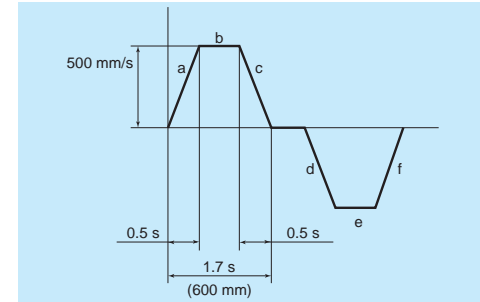

Fig. 4.9
3-1-1. Fatigue life; Multiply the result of the Eq. ② by the dynamic equivalent coefficient (Table 4.14 double slider) to convert the load volume. From operation profile (Fig. 4.9), the acceleration is 1 m/s2.